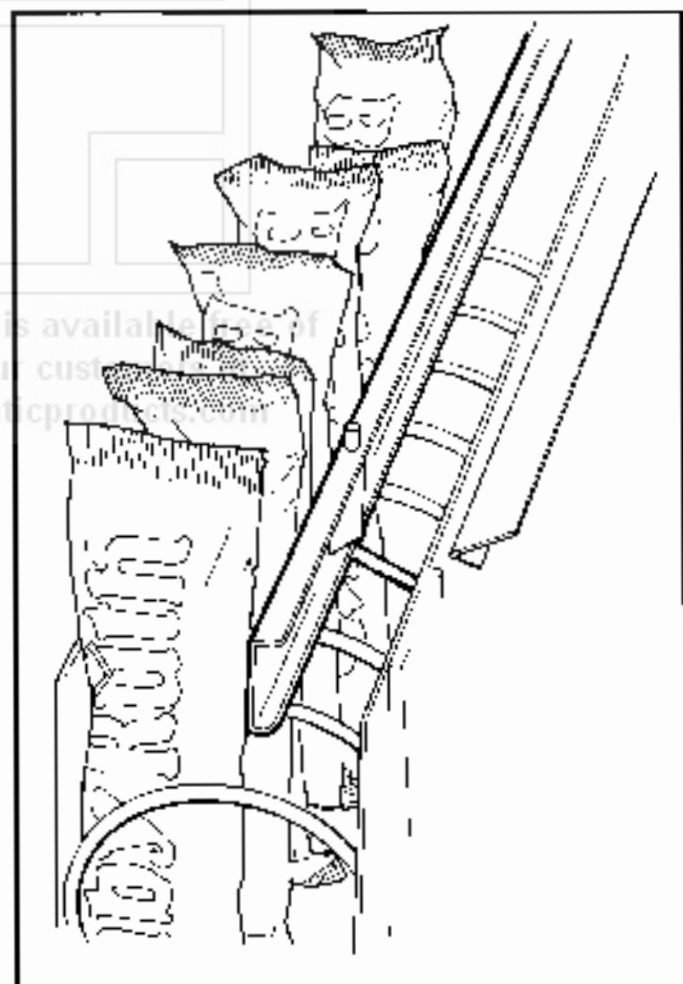

Figure 6. 8 SELECTION SHELF PRODUCT SPACER POSITIONED TO HOLD CANDY UPRIGHT.
7. **PRODUCT SPACERS 8 SELECTION SHELF:** The 8-selection shelves are equipped with a product spacer (see Figure 6) that can be pivoted from the right side of each product space. These spacers should be pivoted out to hold the product upright, but not tight against the product. Leave about $\frac{1}{8}$ " clearance between the spacer and the product.